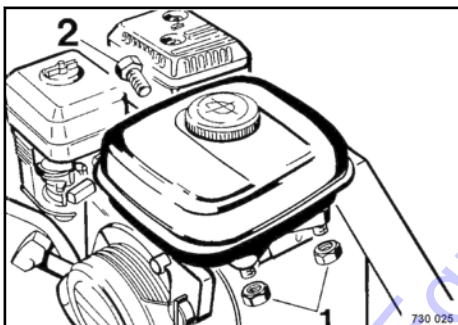

Fig. 57
Unscrew the hexagon nut (1) ↺ Fig. 57 and the hexagon screw (2) and take off the fuel tank.